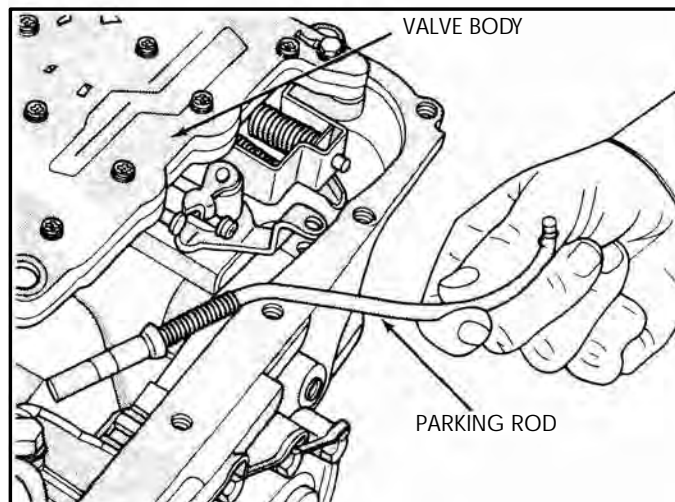

Figure 239
5. Install the parking rod through parking pawl and parking pawl bracket (See Figure 239).